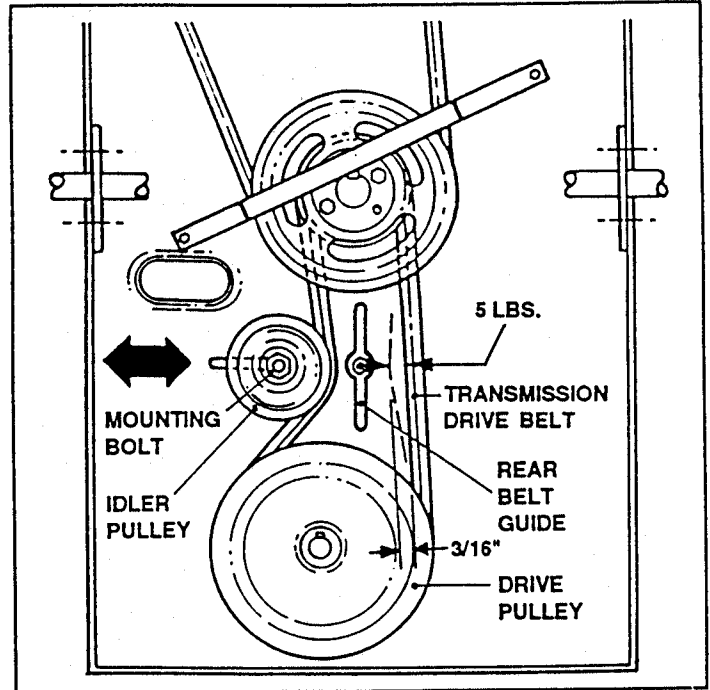

FIGURE 38
1. **STOP ENGINE!** Transmission Belt should move 3/16" with five pounds of pressure applied to the Belt between Engine and Transmission pulleys. **DO NOT OVER TENSION BELT!** See Figure 38.